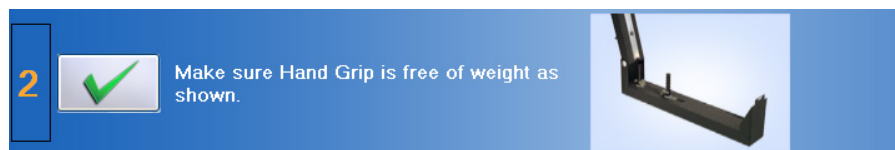

Figure 5-10. Hand Grip - Set the Zero Point
Step 2. Once the Hand Grip is in place, click on  to set the zero point (Figure 5-10).
Step 6. Remove the 15 lb calibration weight and lift the lid up. (Figure 5-10)